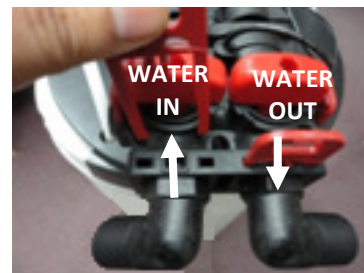

Fig 1
- The system has 3 connections - an inlet, an outlet, and a drain line connection. If you are looking at the back of the unit (fig 1), the inlet is on the left side. **Warning:** Make sure that you have correctly identified the inlet of the system. **REVERSING THE CONNECTIONS WILL RESULT IN CARBON MEDIA BEING THROWN INTO YOUR HOME'S PLUMBING SYSTEM CAUSING DAMAGE TO IT AS WELL AS THE CCAF system.**